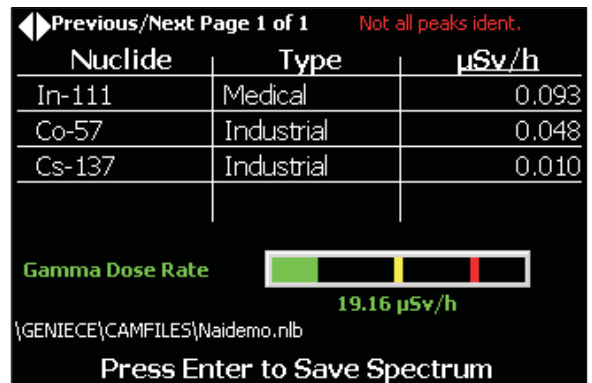

Figure 23 Composite Nuclide ID
- The table in the two **Composite** displays (Figures 23 and 24) list the Nuclide, its dose rate (if enabled), its activity, and either its activity % Error or its Confidence, and a Gamma Dose Rate bargraph.